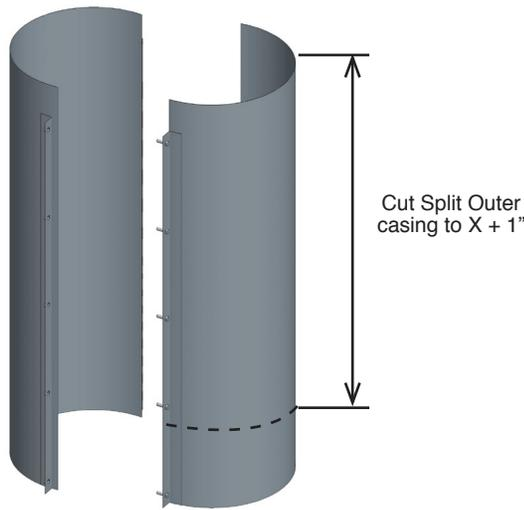

Figure 26b - Step 3 - Cut of the Outer Casing
3. Cut the split outer casing at dimension X plus 1". See **Figure 26b**.